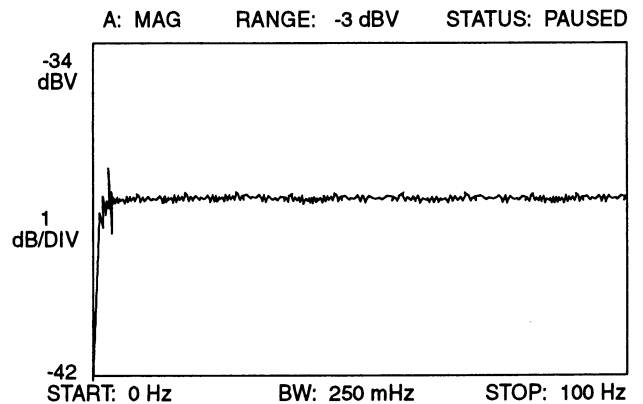

Figure 9. Mod Comp Flat Frequency Response Waveform
Step 15. Compare your trace on the DSA with Figure 9. The frequency response may not be the same, but the entire response curve should be displayed on the screen with less than .5 dB of noise.
- If your trace looks like Figure 9, continue with step 17.
- If the frequency response is not flat, as shown in Figure 9, locate R358 on the bottom right-hand corner of the MSF 5000 Uniboard. Adjust it for a flat frequency response. The response should be flat within .25 dB from 5 - 100 Hz. This circuit is *extremely* sensitive! It does not take much adjustment to change the frequency response.